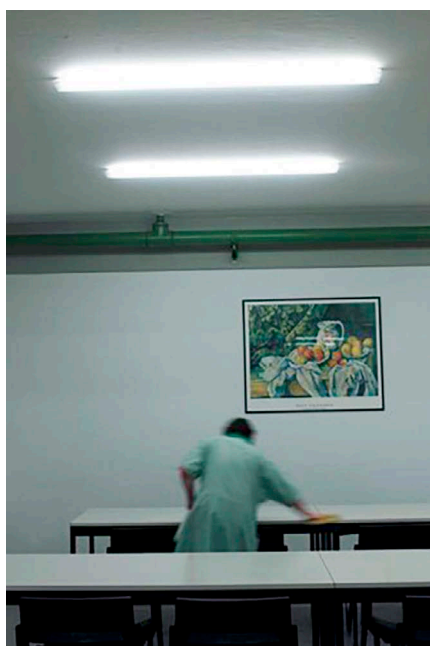

Figure 1: An example of a lighting installation with poor glare control
ate the perceived discomfort glare from lighting installations such as that shown in **Figure 1**. The standard formula is shown in **Equation (1)**.